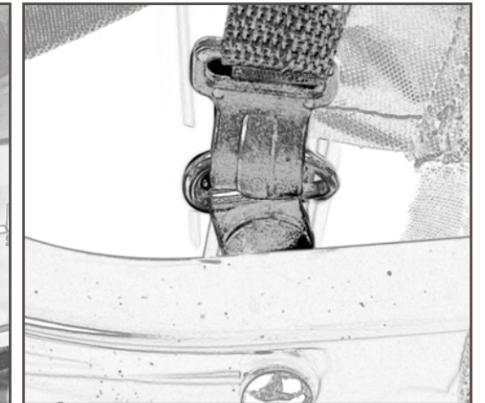

Figure 20
4. Roll down window and clip hooks to D-rings to secure (Fig. 20).